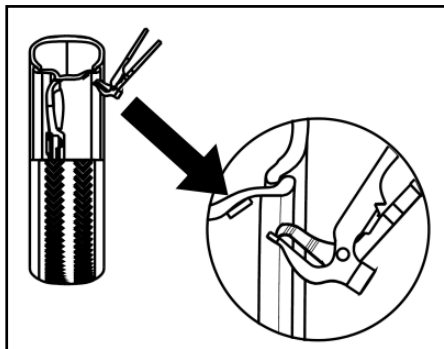

FIG6
- Deflate the air in the tire completely and pull out the core. Use the special tool to detach the weight on the rim. (FIG6)